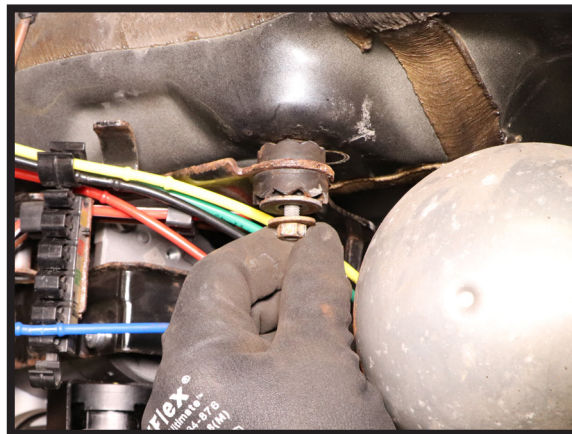

FIGURE 14
8. REMOVE THE MOUNTING BOLTS THAT SECURE THE COMPRESSOR BRACKET ASSEMBLY TO THE VEHICLE. (FIGURE 14)